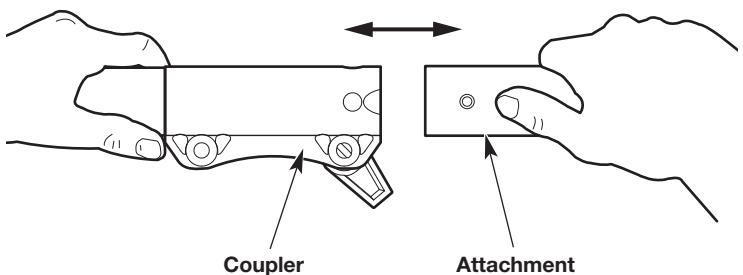
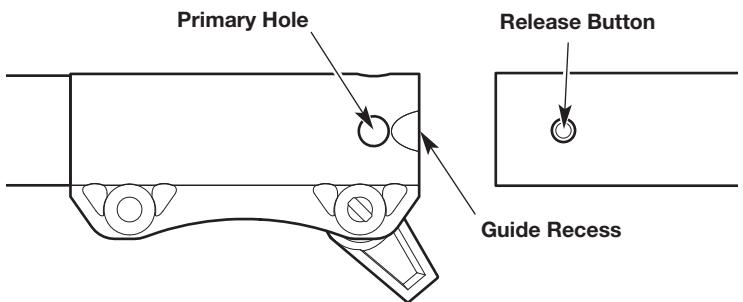

Fig. 2
Fig. 3
4. Align the release button with the guide recess (Fig. 3).
5. Push the attachment straight into the coupler (Fig. 2) until the release button snaps firmly into the primary hole (Fig. 3).